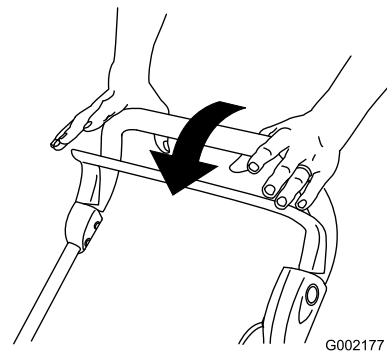

Figure 18
1. Release the control bar (Figure 18).